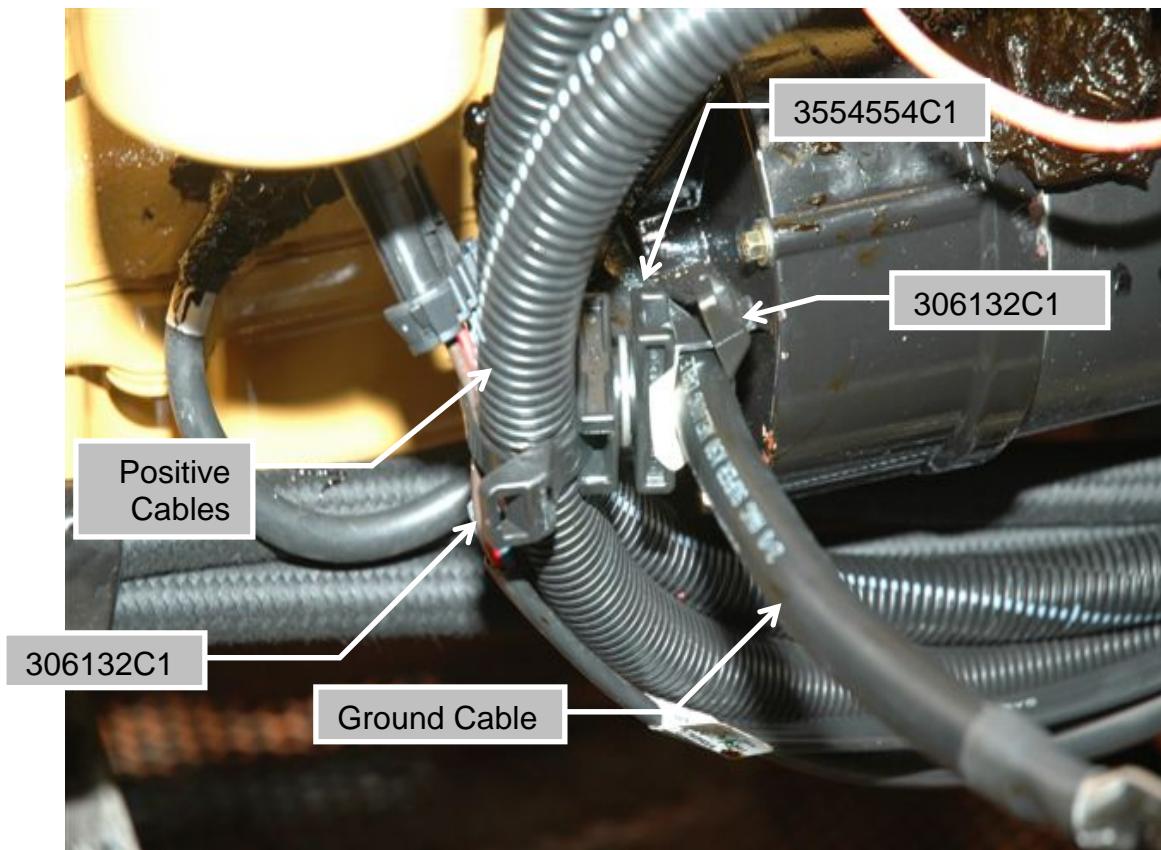

Figure 5 – w/o fuel filter
10. For Caterpillar, Cummins ISX, and Cummins ISM (w/o fuel filter), see Figure 5.